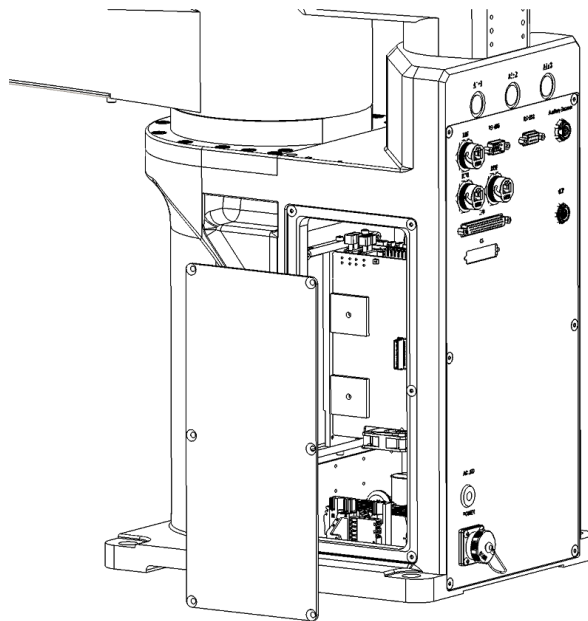

Figure 4-5 Take out the side door of the base
Step 2 Take out the side door of the base, as shown in Figure 4-5.